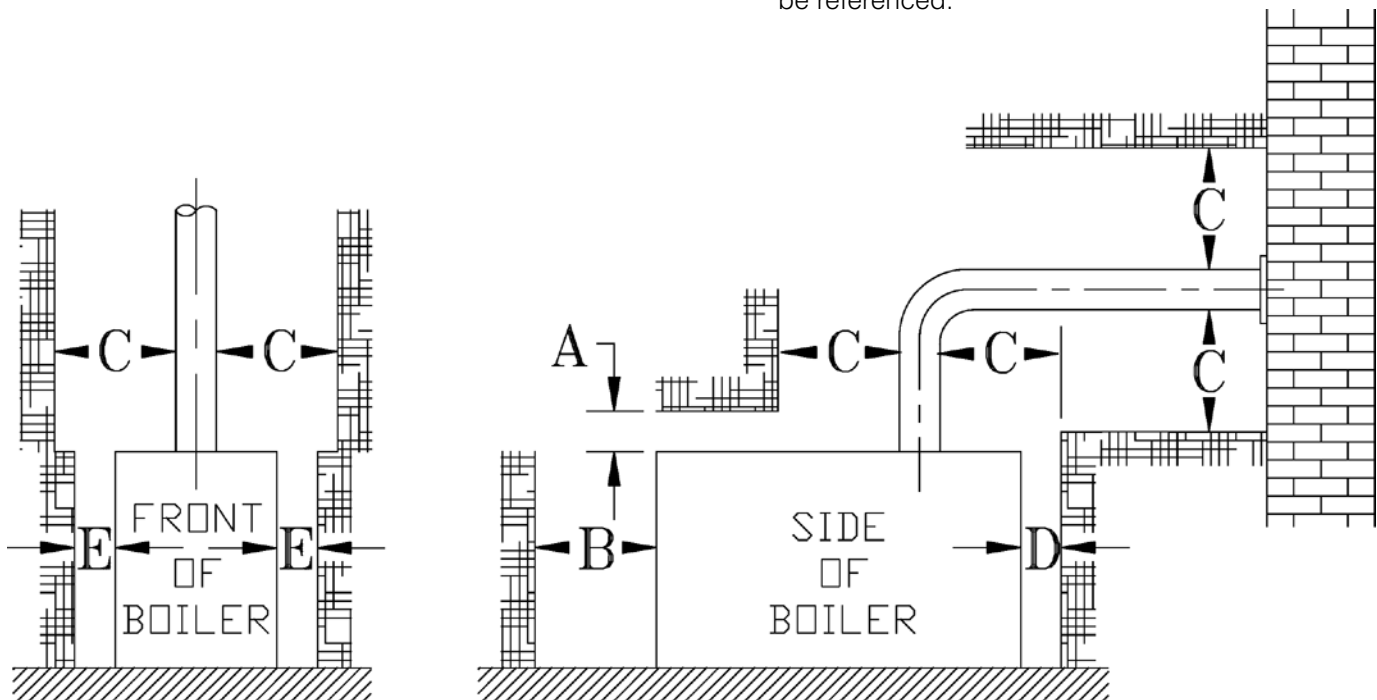

Figure 3: Minimum Installation Clearances To Combustible Materials (Inches)
5. For minimum clearances to combustible materials. See Figure 3.